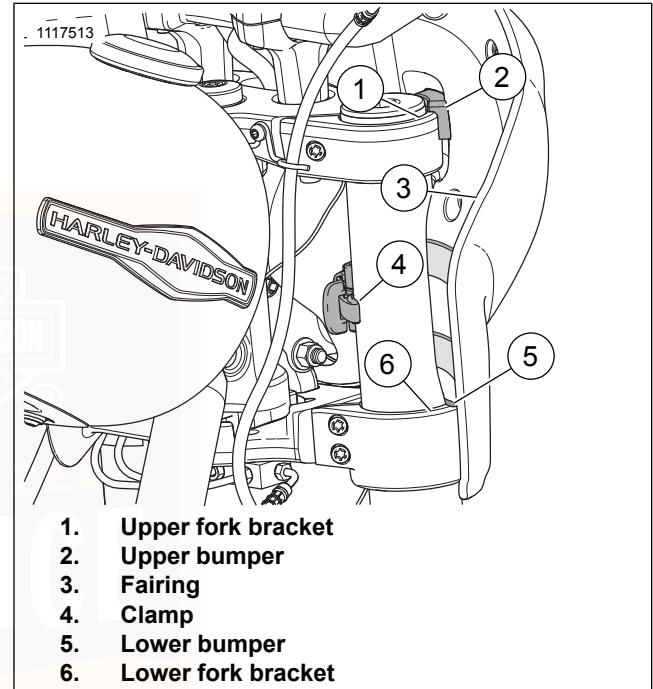

Figure 44. Fairing Installed
1. See Figure 44. Remove fairing.
- b. Open clamps (4).
- c. Straddle fender. Lift fairing (3) up over headlamp.
- b. Open and close clamps (4) to verify they are in working order.
- c. Straddle front fender. Place fairing over headlamp and onto front forks (5).
- d. See Figure 44. Position upper bumper (2) on upper fork bracket (1).
- e. Verify lower bumper (5) is seated on lower fork bracket (6).